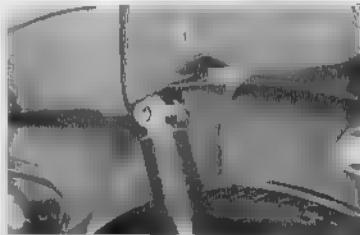

Fig. 4.52 Loosen upper rear cushion cap nuts
- Loosen the cushion mounting cap nuts ① for the right and left sides (Fig. 4.52)